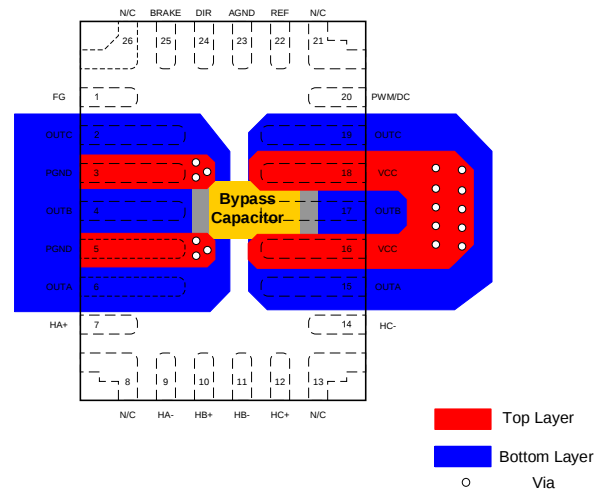
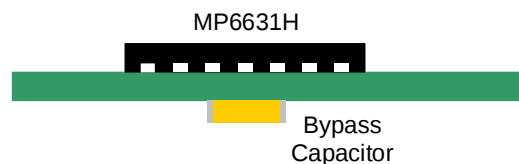

Figure 12: Recommended PCB Layout (Top View)
Figure 13: Recommended PCB Layout (Side View)
Efficient PCB layout is critical for stable operation. For the best results, refer to Figure 12 and Figure 13, and follow the guidelines below:
2. Figure 12 shows the recommended PCB layout when the MP6631H is placed on the top layer and the bypass capacitor is placed on the bottom layer.
3. Figure 13 shows the side view of the MP6631H's recommended PCB layout.